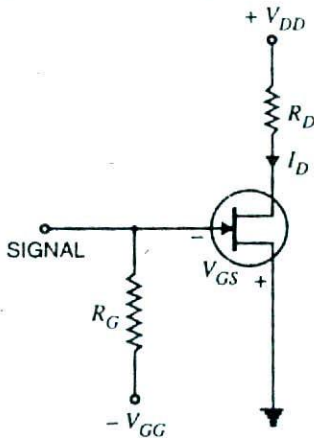

Fig. 21.15
1. Bias battery. Fig. 21.15 shows the biasing of a *n*-channel JFET by a bias battery V_{GG} . This battery ensures that gate is always negative *w.r.t.* source during all parts of the signal.